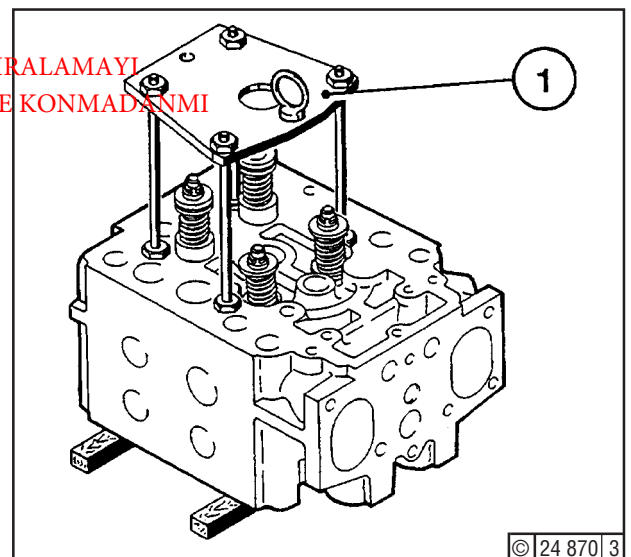

Fig. 2
- Fit lifting device (1) - Fig. 2 -.
- Remove lifting device (1).